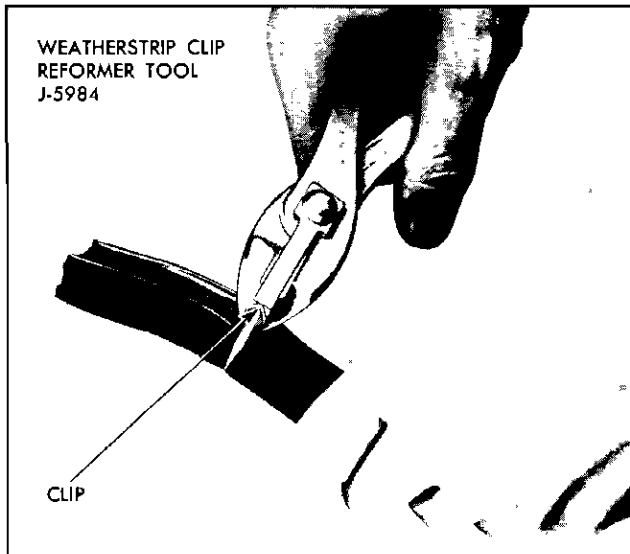

Fig. 4-28 Weatherstrip Clip Reformer Tool
2. Check weatherstrip clips for proper contour and reform clips, if necessary, using clip reforming tool J-5984 (Fig. 4-28).